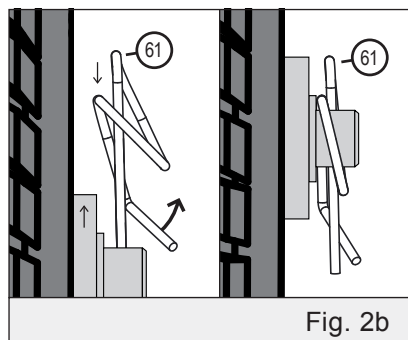

Fig. 2b
2. Add 1 washer (62) to the wheel axle (31), then slide on the tire (63) and an additional washer (62). Secure in place with the Rue Ring Locking Pin (61). (See figures 2b and 3c below).